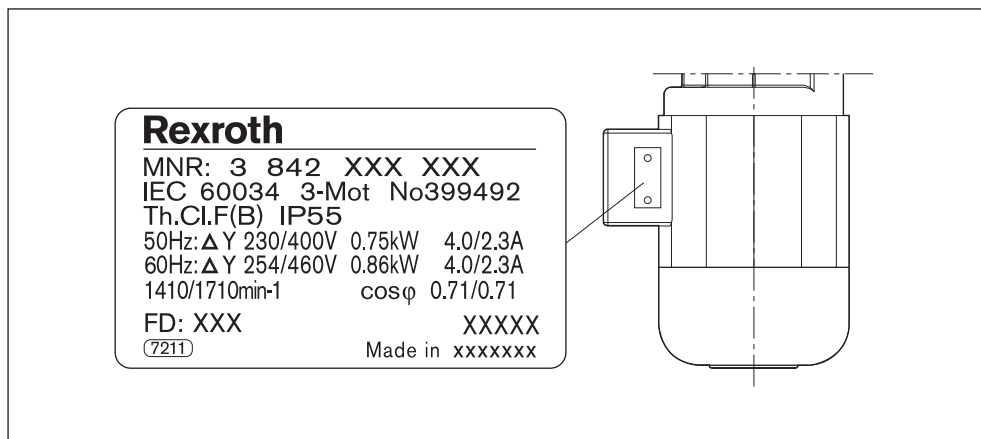

Fig. 30: Motor nameplate (example)
- Observe the electrical connector information on the motor nameplate, see Fig. 30 on page 45.